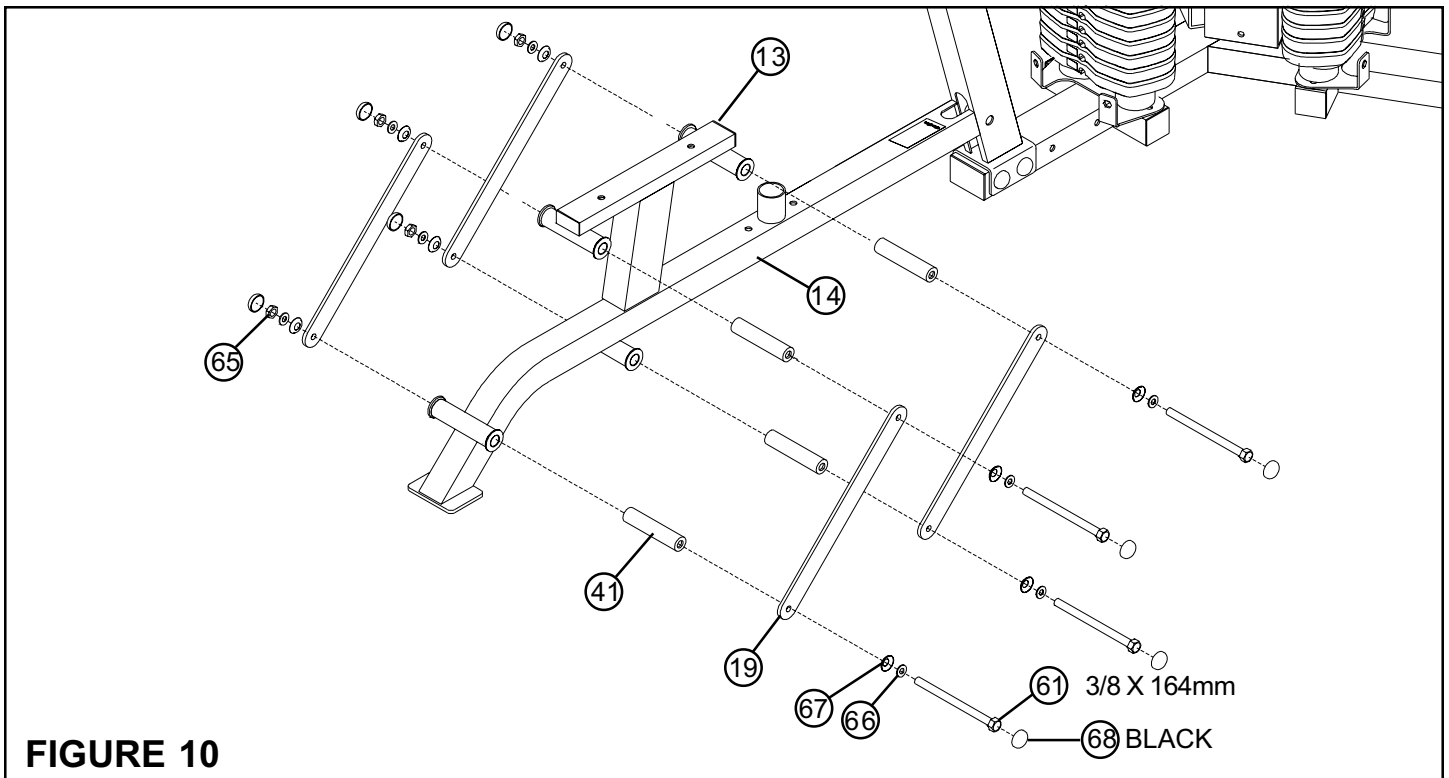

FIGURE 10
- Insert four 5-1/2" PIVOT SHAFTS (41) into the LAT/LOW FRAME (14) and the LAT/LOW SEAT (13) as shown in FIGURE 10.
- **SECURELY** assemble four LAT/LOW PLATES (19) to the LAT/LOW SEAT (13) and to the LAT/LOW FRAME (14) using eight BLACK RH CAPS (68), four 3/8 X 164mm BOLTS (61), eight 3/8" SAE WASHERS (66), eight 3/8" RH WASHERS (67) and four 3/8" LOW HEIGHT LOCK NUTS (65) as shown in FIGURE 10.